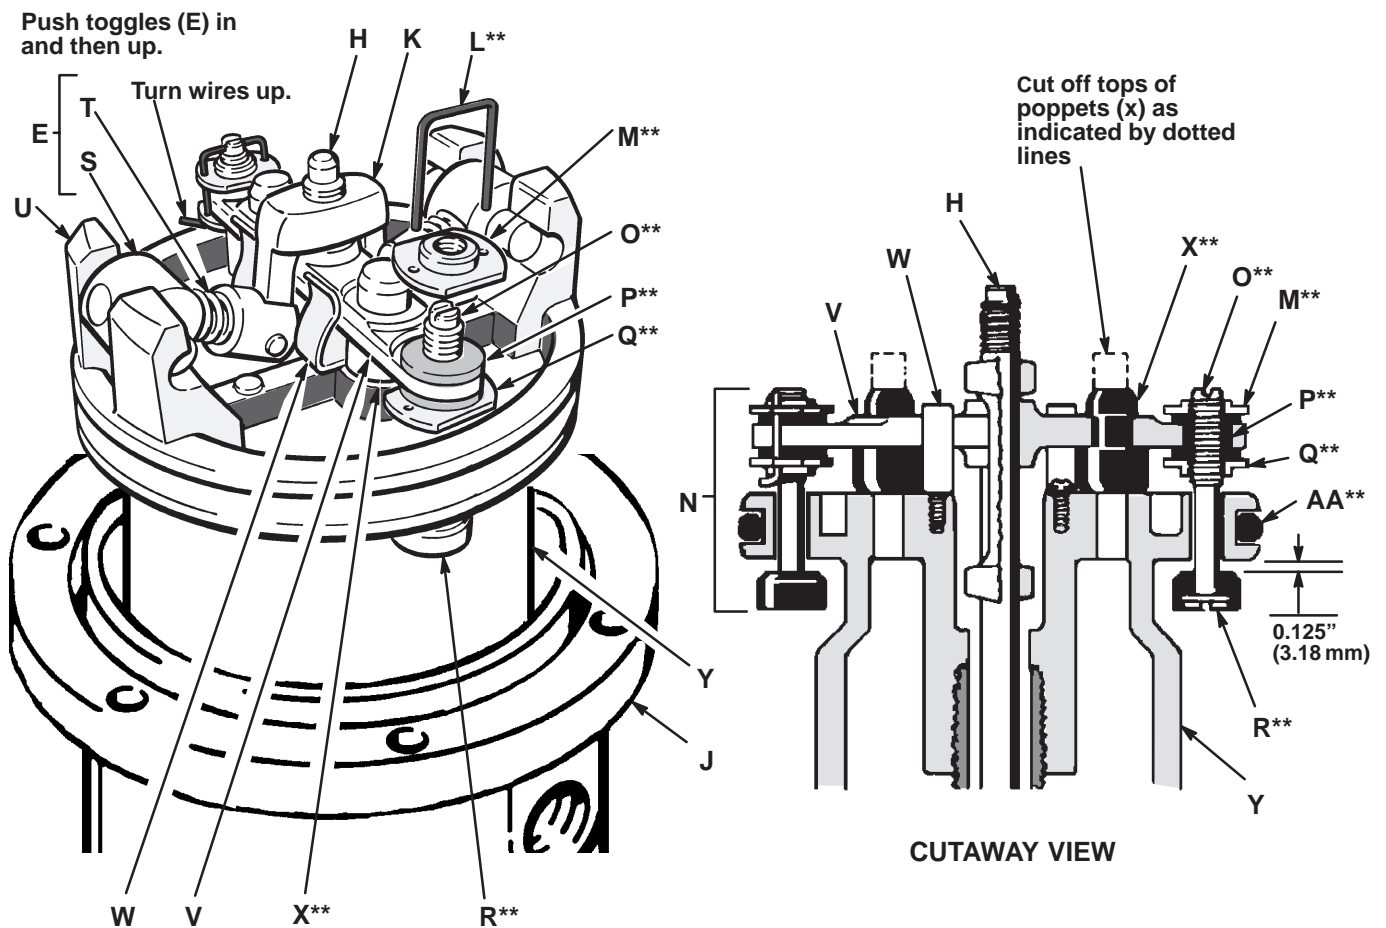

Fig. 3
Always keep fingers clear of the toggle assemblies (E), to avoid pinching or amputating them. See Fig. 3.
5. Use a screwdriver to push down on the trip rod yoke (K) and snap the toggle assemblies (E) down. See Fig. 3. Remove the lockwires (L) from the adjusting nuts (M and Q) of the transfer valves (N). Screw the top nuts (M) off. Screw the valve stems (O) out of the grommets (P) and lower adjusting nuts (Q). Take the valve poppets (R) off the stems and squeeze them firmly to check for cracks.
- Grip the toggle rockers (S) with a pliers. Compress the springs (T) and swing the toggle assembly (E) up and away from the piston lugs (U), and remove the parts. Check that the valve actuator (V) is supported by the spring clips (W), but slides easily into them. See Fig. 3.
- Remove the trip rod yoke (K), valve actuator (V) and trip rod (H). Check the exhaust valve poppets (X) for cracks.
4. Be sure the o-rings are in place. Slide the piston rod down through the throat bearing and lower the piston (Y) into the air motor base (J).
5. Pull the exhaust valve poppets (X**) into the valve actuator (V) and clip off the top part shown with dotted lines. See Fig. 3.
6. Install the transfer valve poppets (R**) onto the valve stems (O**), then reassemble the valve stems (O**), bottom adjusting nuts (Q**), grommets (P**), and top adjusting nuts (M**) on the piston (Y). Assemble the trip rod (H), valve actuator (V), trip rod yoke (K) and toggle assemblies (E) on the piston. See Fig. 3.
7. Before installing the lockwires (L**) in the adjusting nuts (M** and Q**), use the special gauge 171818 to adjust the transfer valve (N) so there is 0.145 in. (3.68 mm) clearance between the poppets (R**) and the piston (Y) when the toggle assemblies are in the *down* position. See Fig. 3.
8. Snap the toggle assemblies (E) to the *up* position. Reinstall the cylinder (G) and stroke adjuster (F). Reassemble the air motor to the displacement pump.